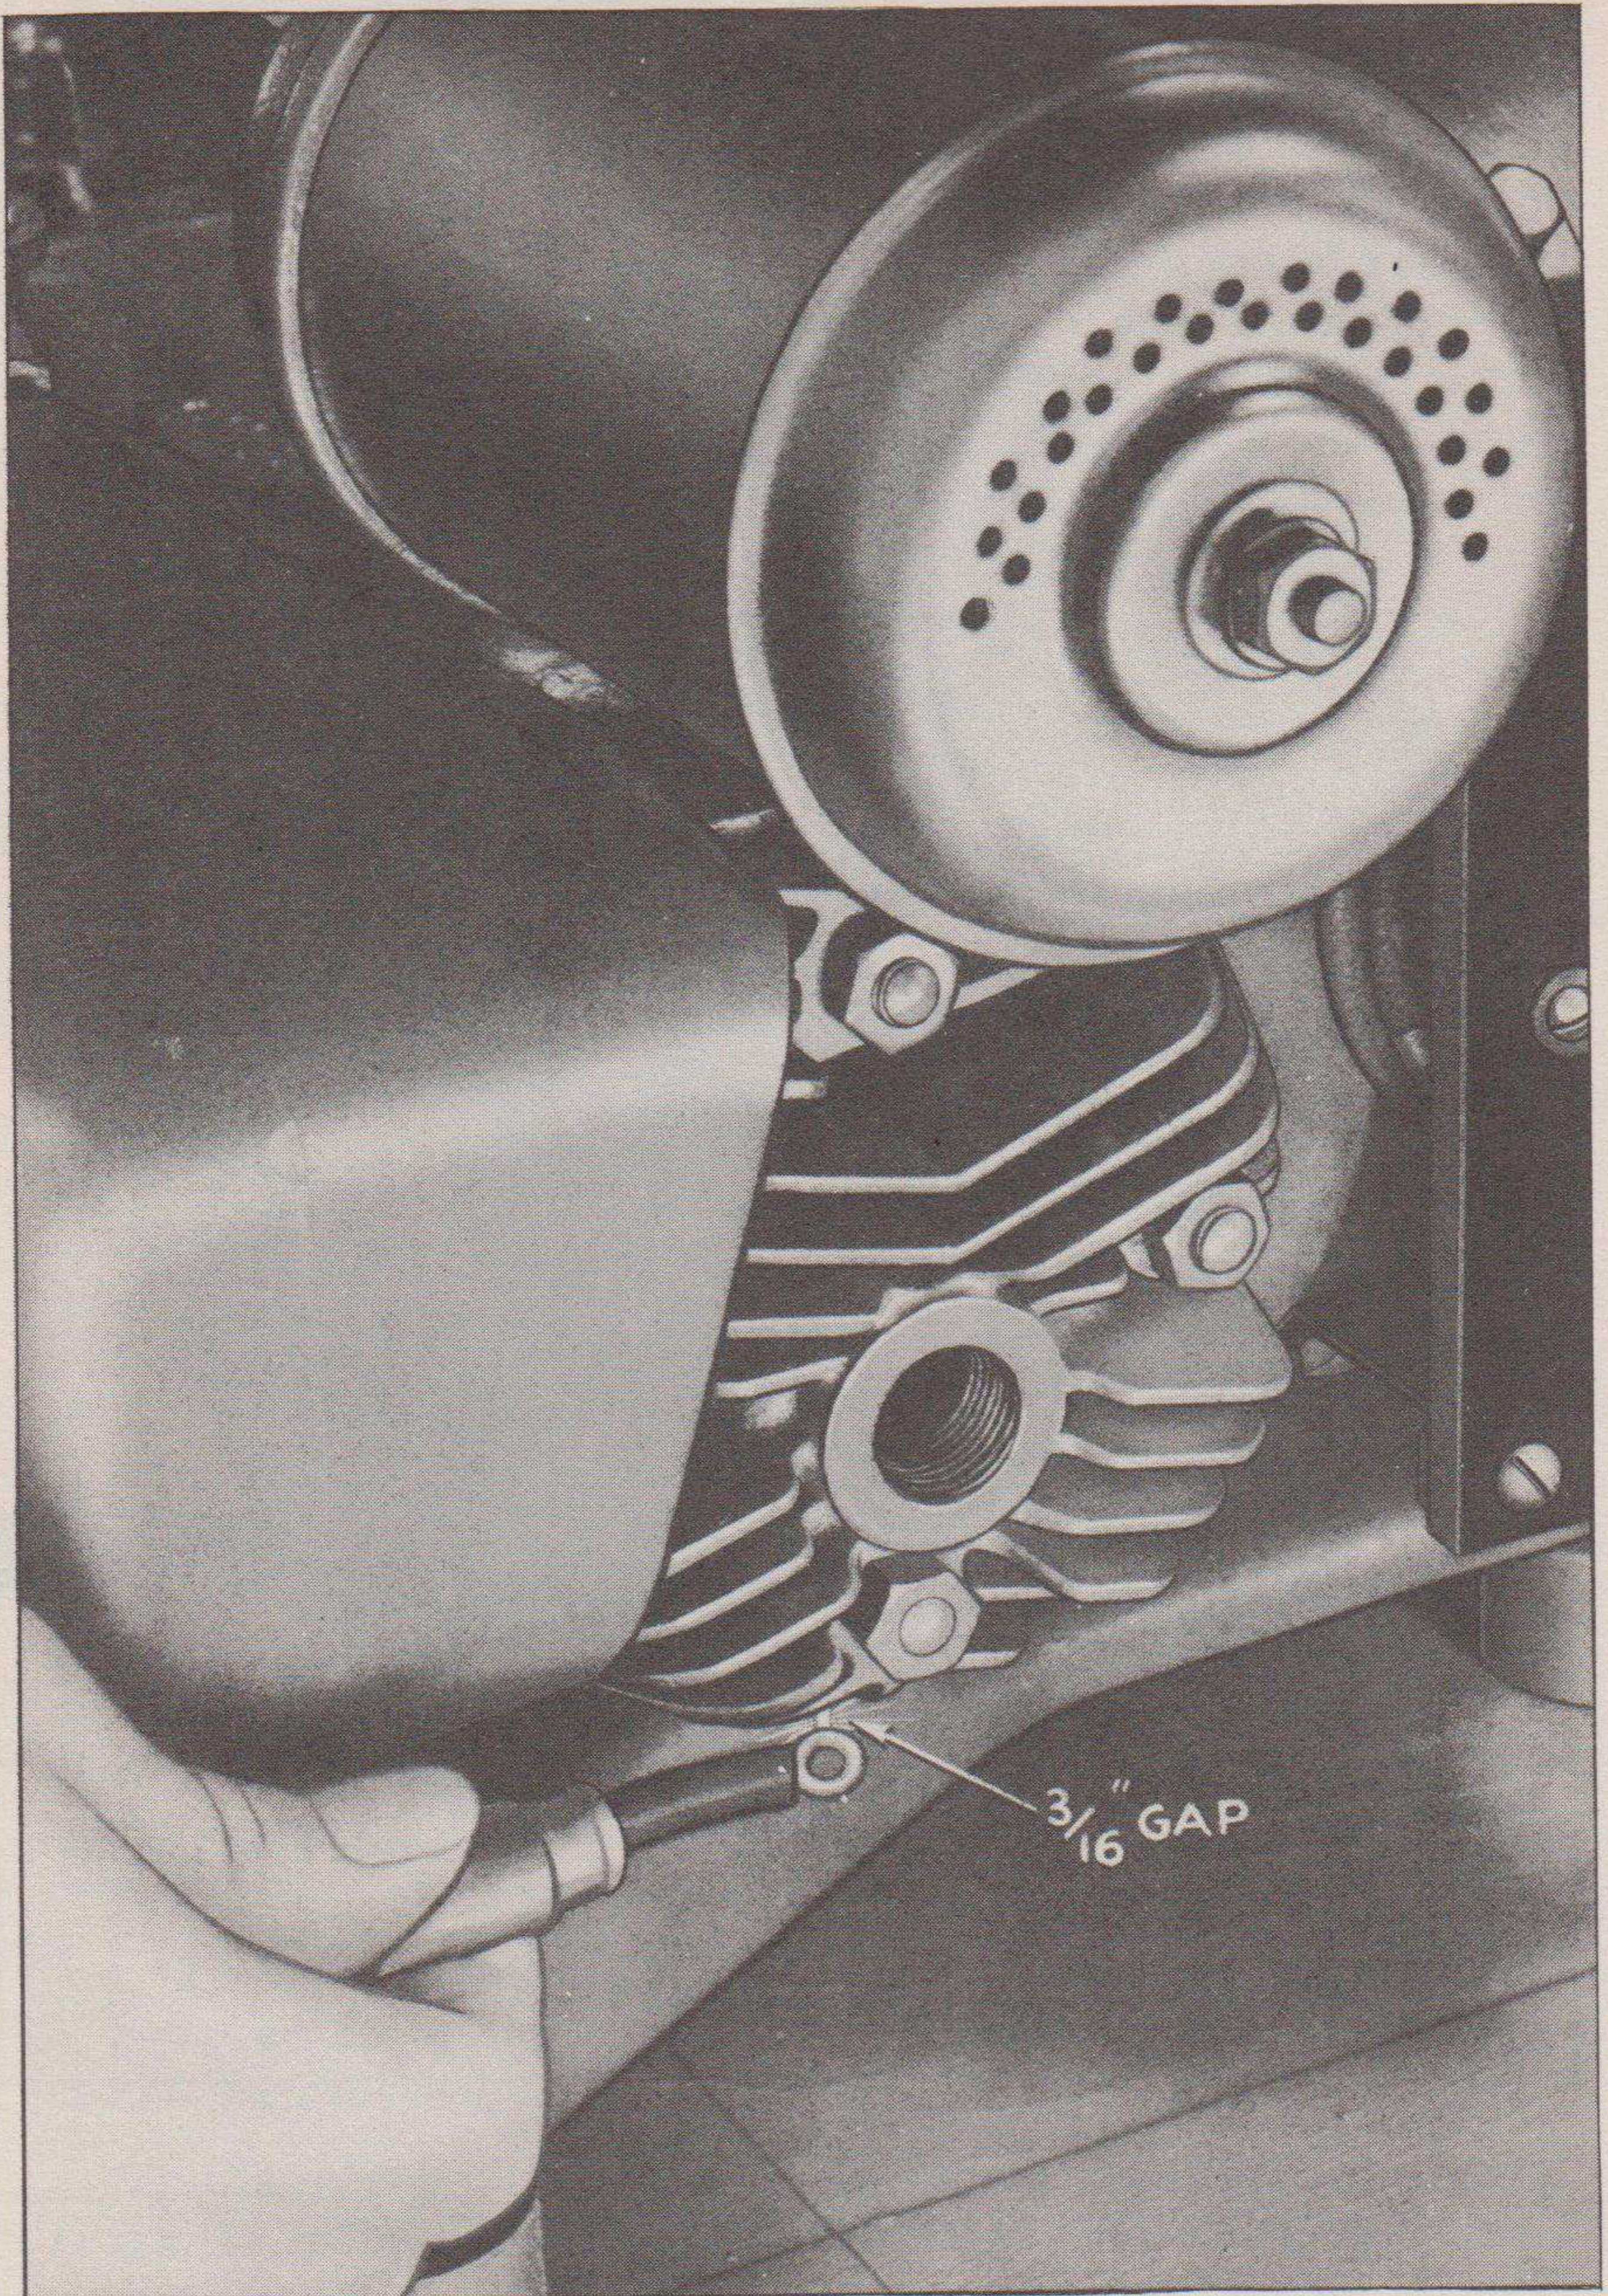

FIG. 11. TEST FOR SPARK OUTPUT
b. Magneto.—It is recommended, if there is an indication the magneto is causing trouble, that a test be made before attempting to repair it. Check magneto by holding high tension wire (45) $\frac{3}{16}$ " away from a point on the engine (see Fig. 11, page 23). Do not grasp the uninsulated portion of the wire when making these tests. When the engine is cranked in the usual manner, a properly performing magneto will have a spark output strong enough to jump the prescribed gap. The only adjustable part on the magneto is the breaker plate (37) which provides adjustment for the breaker points. To adjust breaker points, first remove housing (52). Then unscrew starter pulley from crankshaft. Screw on flywheel removal tool (142) supplied with equipment and tap tool on the end to loosen flywheel (49) which should then be removed to provide access to points. To adjust points, turn